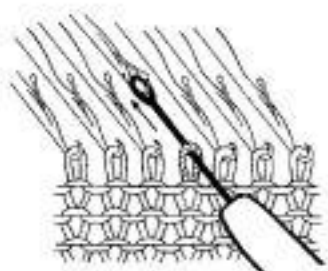

Fig. 46-1
- (a) Using the single eye Transfer Tool transfer the stitch from the needle where you wish to decrease onto the next needle towards the centre. (Fig. 46-1)